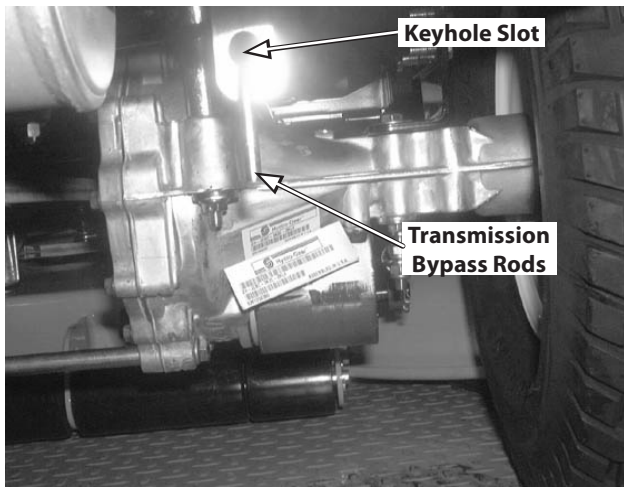

Figure 6-4
1. From just in front of the two rear tires, locate the transmission bypass rods. Refer to Figure 6-4.